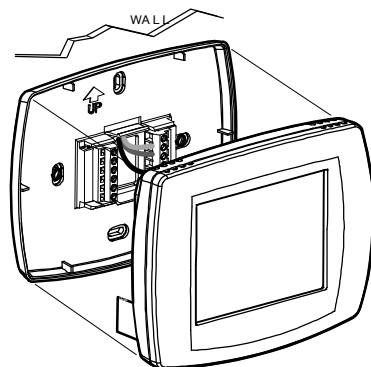

Figure 15. Mount Thermostat to Wallplate.
2. Push the thermostat straight onto the wallplate until it snaps into place (see figure 15).